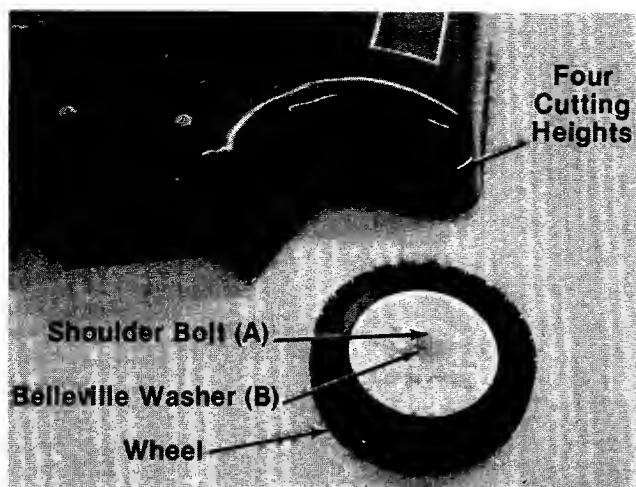

FIGURE 4.
6. Your mower has four height settings. Use the same mounting hole for all four wheels when assembling. See figure 4.
- A. Place shoulder bolt (A) through wheel. See figure 4.
- B. Place cupped side of belleville washer (B) towards the deck (away from wheel). See figure 4.
- C. Place shoulder bolt through desired mounting hole on deck. Secure with belleville washer (B) (cupped side goes against the deck) and hex nut (C).